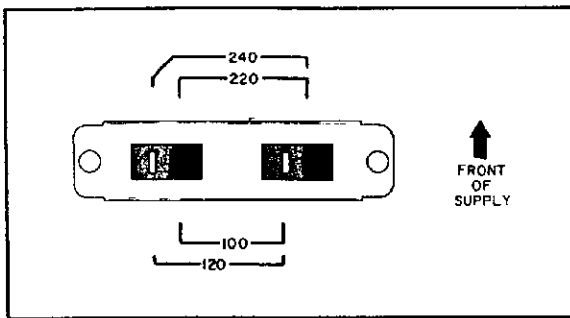

Figure 3-2. Line Voltage Selector (Set for 120 Vac)
*Before applying power to the supply, make certain that its line voltage selector switch (S3) is set for the line voltage to be used. This switch is mounted on the circuit board behind the voltmeter and is visible through the perforations in the top cover. The positions of the two white marks on the switch indicate the switch setting (see Figure 3-2). If the switch setting does not correspond to the intended power source, proceed to paragraph 3-4 before applying power.*
1. After making certain that the line cord is disconnected from a source of power, remove the top cover from the supply and set the two sections of the line voltage selector switch for the desired line voltage (see Figure 3-2).